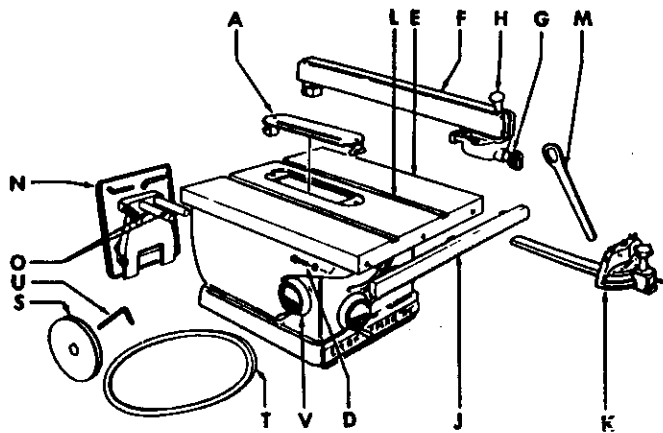
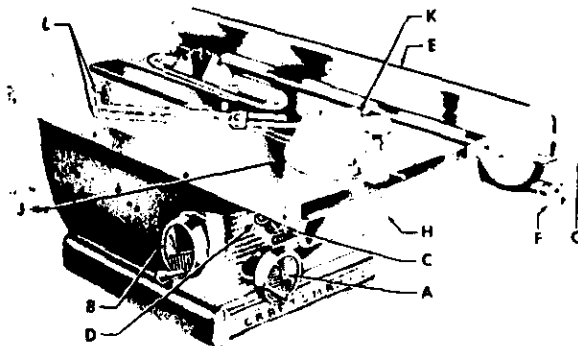

Figure 2
Figure 3
Your saw is shipped with the following loose parts wrapped separately and packed in same carton with the saw (see figure 2): Rip fence rack (J), three screws and lock washers (D), rip fence (F), miter gage (K), motor mount (N), motor pulley (S), V-belt (T), arbor nut wrench (M), Allen wrench (U), handwheel assembly (V), and motor mounting hardware. Thoroughly clean the saw and these loose parts with a dry cloth. Remove the rust-preventative coating on the saw table by wiping it off with a cloth soaked in kerosene.
CHECK ARBOR NUT — Check tightness of saw arbor nut (Key No. 10, fig. 1), using wrench (M, fig. 2).
ALIGN SAW BLADE WITH TABLE GROOVES — Using elevation hand wheel (A, fig. 3), set saw blade for deepest cut. Make pencil mark on tooth that is just above table top at front of
blade. Measure distance from this tooth point to right-hand table groove (L, fig. 2). Rotate blade by hand to place this same tooth just above table top at rear — then again measure distance from tooth point to right-hand groove. The two measurements must be exactly equal. If not, loosen the three screws (Key No. 84, fig. 1) in each trunnion which secure the table trunnion (Key No. 83, fig. 1) to the table. Shift the two trunnions until the two measurements are equal, then retighten the screws. Again check measurements.
INSTALL RIP FENCE — Secure the rack (J, fig. 2) to the front skirt of the saw table, using the three screws and lock washers (D, fig. 2). Be sure to position rack with gear teeth facing downward — and with top edge of rack parallel with the top of table. Pull the rip fence knob (G, fig. 2) out to permit the guide of the rip fence (F, fig. 2) to slide over rack (J, fig. 2) — then place the rip fence on the saw table as shown in figure 3. A slight pressure must be exerted on the rip fence to cause it to seat properly on the rack. This is necessary because there are two bar alignment springs which act on the inner lip of the rack to hold the fence in continuous alignment. Slide fence along rack, noting clearance between fence and table top. If any part of the fence (other than the sliding pad at the rear) drags on the table top, or if the clearance between fence and table varies appreciably as fence is moved, rack (J, fig. 2) must then be readjusted. This can be done by again loosening screws (D, fig. 2) to reposition the rack.
ADJUSTING RIP FENCE PARALLEL TO SAW BLADE — Place the rip fence next to the right-hand table groove (L, fig. 2) and clamp it in place by pushing down on the cam clamp lever (H, fig. 2). Fence should be perfectly parallel to the groove. If not, loosen the four screws (Key Nos. 70 and 71, fig. 1) which secure the guide to the fence. Align fence with groove — then retighten screws.
ADJUSTING STOP COLLARS — Using the elevation hand wheel (A, fig. 3), set saw blade for deepest cut. Rotate the tilt hand wheel (B, fig. 3) clockwise until further movement is prevented.
See operation of clamp screw handle (D, fig. 3) under Operating Controls. Use a square and check for 90 degrees between the side of the elevated blade and the table top. If the blade is not square with the table top, operate the tilt hand wheel until the pointer indicates approximately 10 degrees on the tilt gage. Loosen the set screws (Key No. 31, fig. 1) on the stop collar (Key No. 32, fig. 1) nearest to the tilt hand wheel. Rotate the stop collar on the tilt screw (Key No. 35, fig. 1) to the left or right (whichever is required) an amount necessary to stop the blade square or at 90 degrees to the table top. Tighten the two set screws and rotate the tilt hand wheel clockwise until further movement is prevented. Recheck the blade for squareness. Several slight adjustments may have to be made to the stop collar before the blade is square with the table top.
MOUNTING THE MOTOR — Mount the motor (see Motor Specifications) to the motor mount assembly (N, fig. 2) — then mount the motor support assembly to the saw by sliding the two pins (O, fig. 2) into the mounting holes at the rear of the cradle. Place pulley (S, fig. 2) on the motor shaft, line it up with the pulley on the saw arbor, then tighten the pulley set screws. Install V-belt (T, fig. 2) over pulleys and adjust the belt tension by moving the motor support assembly towards or away from the cradle. Motor should be allowed to rest or hang against the belt to obtain the automatic belt tightening feature — and belt should be snug. If adjustment is correct, clamp the motor support in place by tightening the two hex. head machine screws (Key No. 115, fig. 1) which are packed in the envelope in the loose parts carton.
PLACEMENT OF MITER GAGE — The miter gage assembly (K, fig. 2) can be used in either one of the two table grooves.
The following controls should be tested until the operator is thoroughly familiar with their uses. See figure 3.
ADJUSTING TILT GAGE — Using an accurate square, set saw blade at right angles to table top. Then adjust the pointer on the tilt gage (C, fig. 3) to "0".
ADJUSTING MITER GAGE SCALE — Using an accurate square, block the miter gage at the square position. Make a trial cut on a fairly wide board, then check this cut with the square. If cut is accurate, set the pointer on the miter gage scale (J, fig. 3) to "90".
ADJUSTING CAM CLAMP LEVER — If clamping action of lever (H, fig. 2) is too tight or too loose, it can be adjusted by increasing or decreasing the effective length of the rip fence clamp rod (Key No. 78, fig. 1). This is done by readjusting the clamp rod nut (Key No. 63, fig. 1) on the end of the clamp rod in back of the fence. When properly adjusted, the clamping lever should lock in a horizontal position or slightly lower.